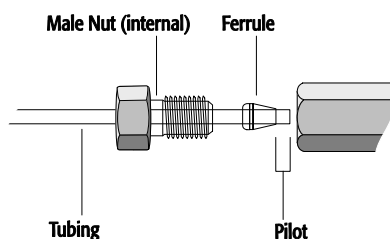

Figure 78. Definition of Terms for Tubing Connections.
3. Open the connection and remove the assembly to inspect the pilot distance, see Fig. 78 above.